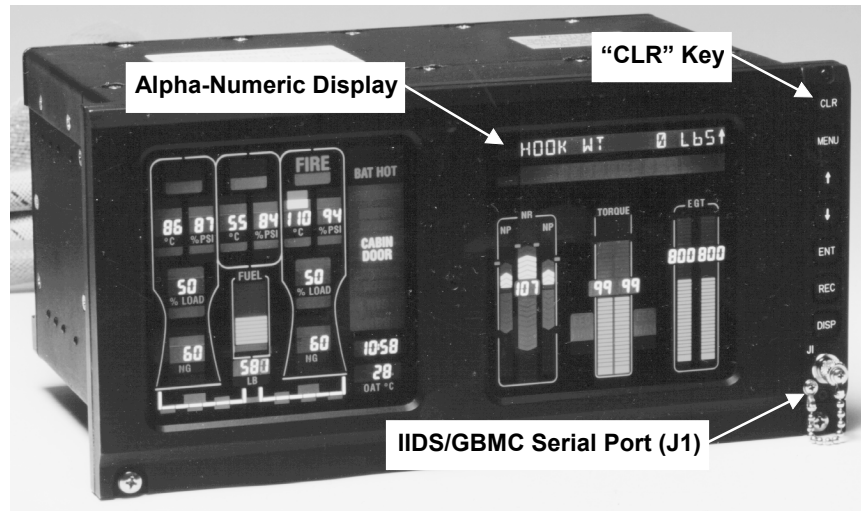

Figure 15. Integrated Instrument Display System (IIDS)
2. Connect the special round serial port cable connector to the J1 port on the front of the IIDS display (refer to Figure 15).
4. Press the CLR button (refer to Figure 15) on the IIDS and hold for approximately 2 seconds to clear the IIDS alpha-numeric display. This will allow the upload, download and connect messages to be properly displayed on the IIDS alpha-numeric display when performing these procedures with the GBMC.